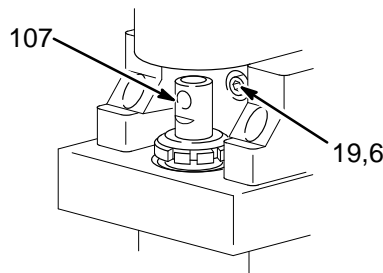
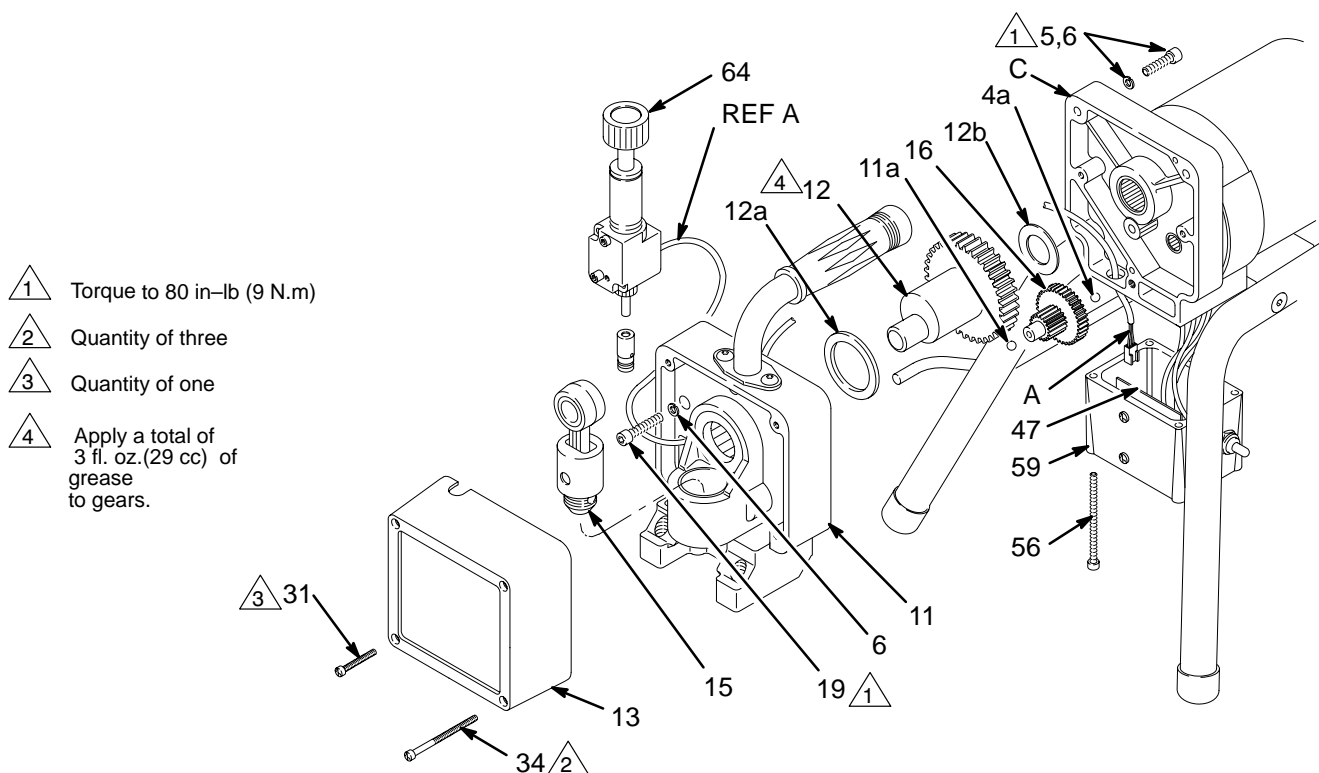

Fig. 27
Fig. 28
2. Remove the pressure control (64). See page 29.
3. Turn the displacement pump rod (107) so the pin hole aligns with the bottom drive housing screw (19). See Fig. 27. Remove the three drive housing screws and lockwashers (19,6). Also see Fig. 28 on page 28.
4. Remove the two motor screws (5) and lock washers (6). See Fig. 28 on page 28.
5. Tap the lower rear of the drive housing (11) with a plastic mallet to loosen the motor. Pull the drive housing straight off the motor.